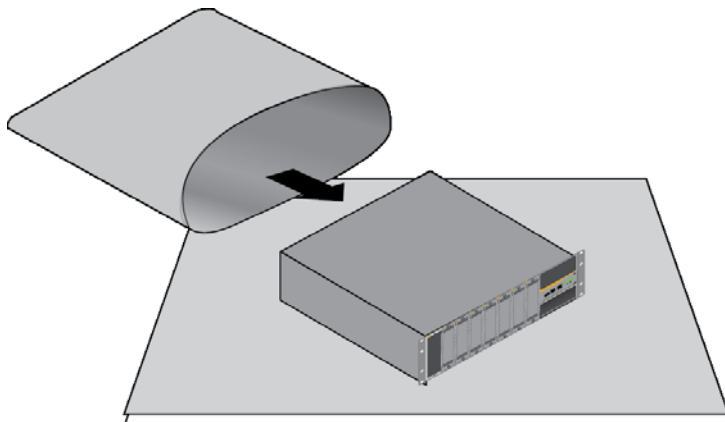

Figure 18. Removing the Switch from the Protective Shipping Bag.
2. Remove the switch from the protective shipping bag and place it on a level, secure table. Refer to Figure 18.